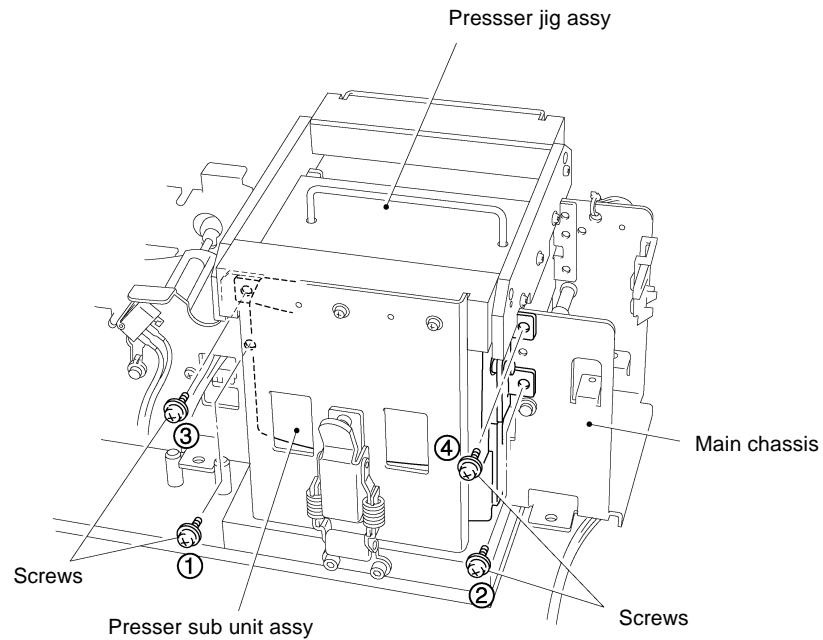

Fig. 3.74A
(8) Tighten ten screws in the order specified in Fig. 3.74A to 3.74B.